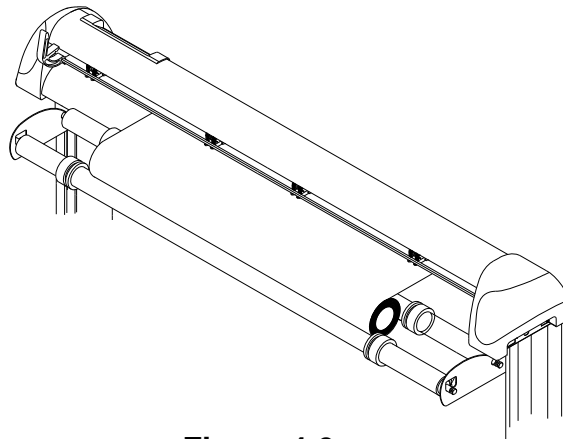

Figure 4-9
4. Then turn the roll downward to make an equal tension across the media. (Figure 4-9)